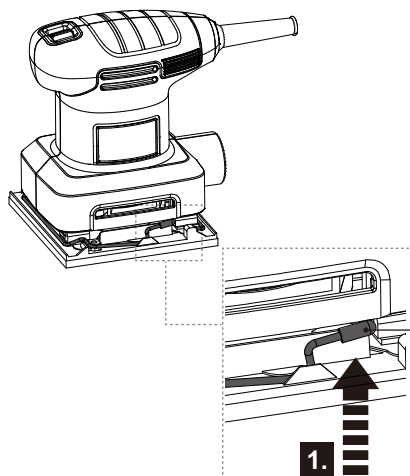

Fig. 3
- > Pull the clamp lever (9) upwards to disengage it (Fig. 3).